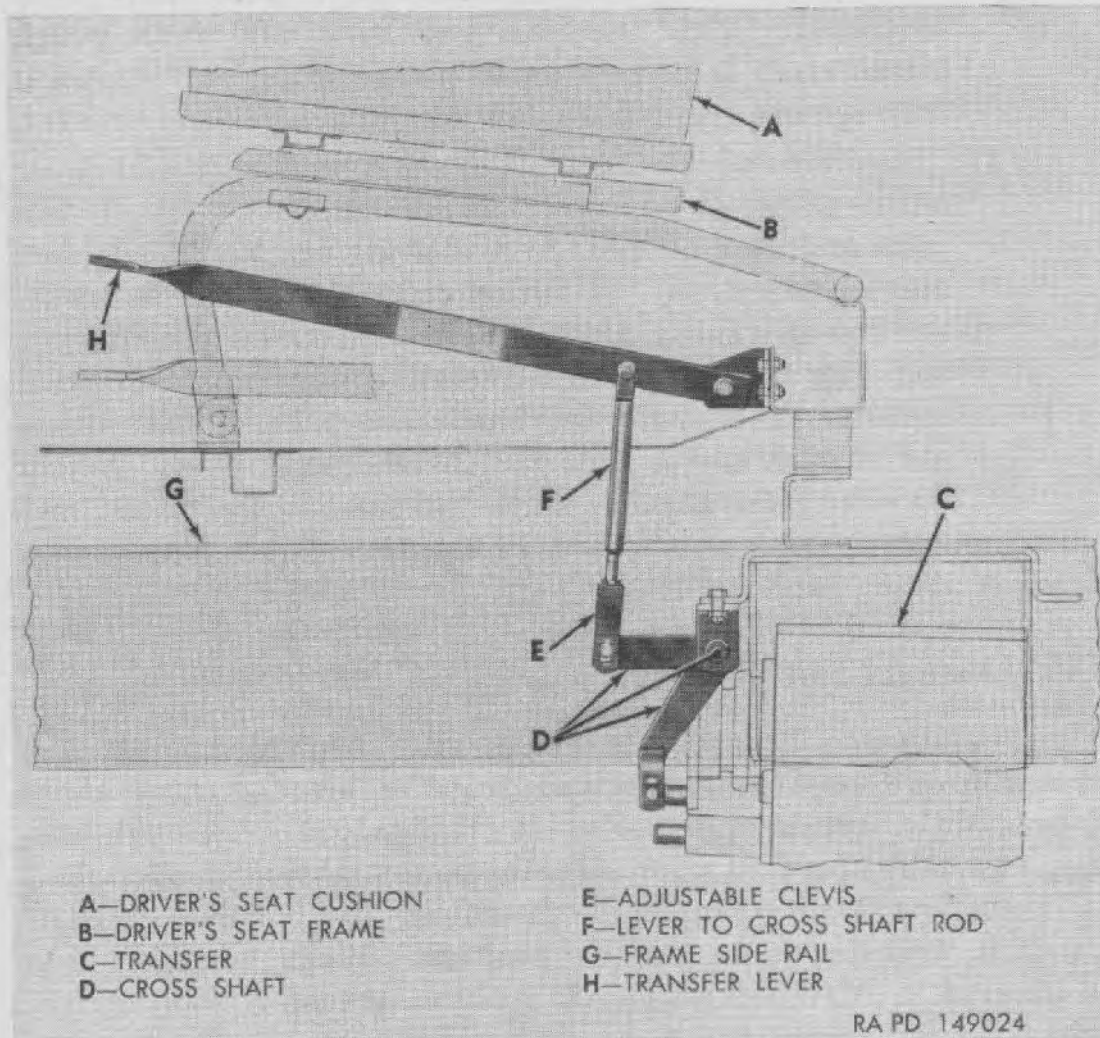

Figure 108. Transfer lever linkage.
a. **GENERAL.** Transfer is placed into neutral and driving operation with manually-operated transfer lever, located above floor slightly to right of driver's seat (H, fig. 108). Through linkage, manually-operated lever actuates power-take-off shifter shaft in transfer. With transfer lever raised to "UP-ENGAGED" position, transfer is in driving position. When transfer lever is lowered to DOWN-NEUTRAL position, transfer is in neutral.
b. **LINKAGE ADJUSTMENT.** With hand-operated transfer lever in UP-ENGAGED position, and with lever resting on lower edge of guide slot, make sure shifter shaft in transfer is pulled out (forward) to detent stop. Adjust clevis (E, fig. 108) to center clevis pin vertically in elongated holes in clevis. Tighten lock nut firmly and secure all clevis pins with cotter pins.
- (1) *Removal.* Remove cotter pin and clevis pin which connect transfer-lever-to-cross-shaft rod (F, fig. 108) to transfer lever (H, fig. 108). Remove cotter pins, retaining washer, and shaft which connect transfer lever to bracket; then remove transfer lever. Remove cotter pin, two washers, and clevis pin from lower end of
transfer lever-to-cross-shaft rod (F, fig. 108); then remove rod. Remove cotter pin, two washers, and clevis pin which connect cross shaft lever to transfer shifter shaft. Remove two nuts and bolts which attach each cross shaft bracket to frame crossmember; then remove cross shaft and brackets from vehicle.
(2) *Installation.* Position cross shaft and brackets to frame cross member. Attach each bracket with two bolts and nuts, tightening nuts firmly. Install clevis pin and two washers connecting cross shaft lever to transfer shifter shaft. Position transfer lever (H, fig. 108) to bracket and attach with shaft and retaining washer; then secure with cotter pins. Position transfer-lever-to-cross-shaft rod (F, fig. 108) and attach to transfer lever with clevis pin; then secure with cotter pin. Adjust linkage, as described in *b* above; then connect rod
(F, fig. 108) to cross shaft lever with clevis pin, two washers, and cotter pin.